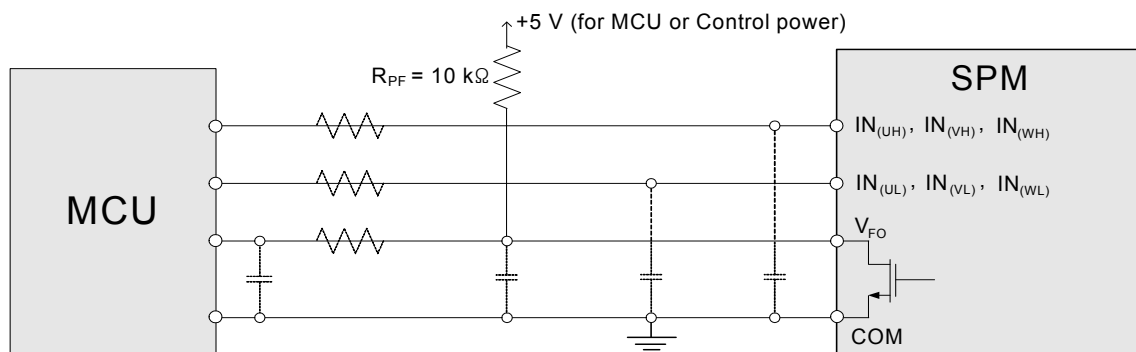

Figure 14. Recommended MCU I/O Interface Circuit
- 3) V_{FO} output is open-drain type. This signal line should be pulled up to the positive side of the MCU or control power supply with a resistor that makes I_{FO} up to 1 mA (please refer to Figure 14).